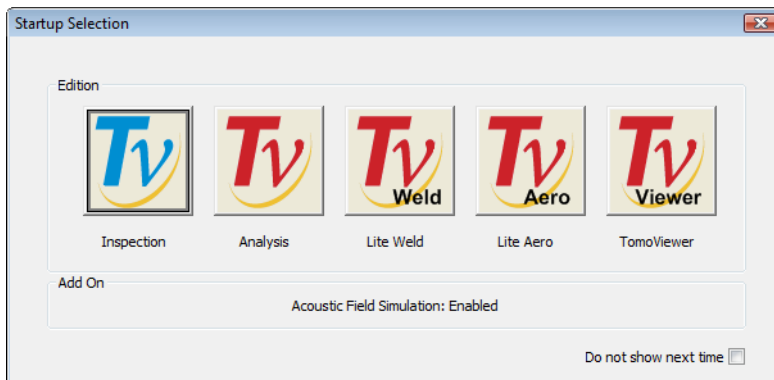

Figure 9-3 The TomoView Startup Selection dialog box with the enabled AFiSiMO add on
2. In the **Start Selection** dialog box, verify that **Acoustic Field Simulation: Enabled** appears in the **Add On** area (see Figure 9-3 on page 132).